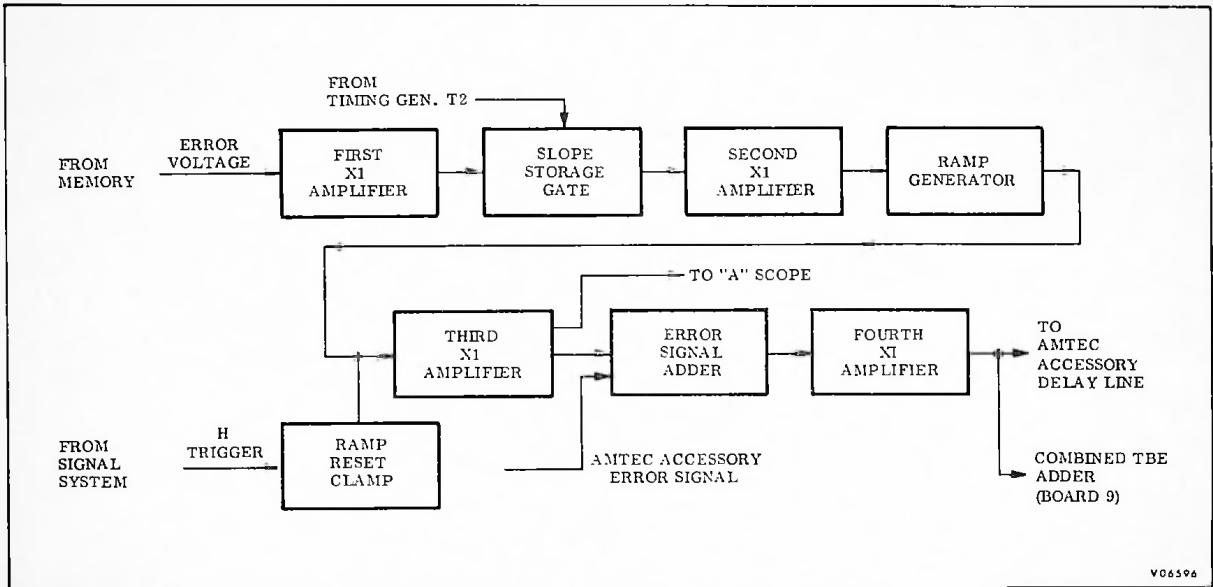

Figure 4.2-6. Read Function Block Diagram
4.2-36 GENERAL. The read board (block diagram Figure 4.2-6) accepts time-base error data from the memory, generates a proportional ramp, and adds it to a time-base error signal from the Amtec accessory. It then supplies the resulting interpolated error voltage to the Amtec accessory delay line. The interpolated error signal is also supplied to the tbe adder circuit of board 9. A schematic diagram of board 8 can be found in Chapter 6 of this manual.